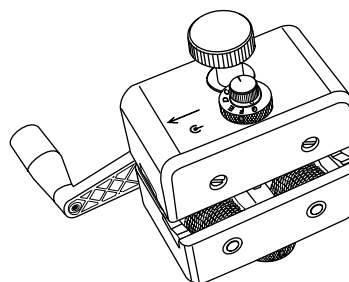

Figure 38
7.25 The Corning Cable Systems Universal Access Tool III is designed to access the fibers of a single-tube cable in a mid-span location where slack is present (Figure 38).